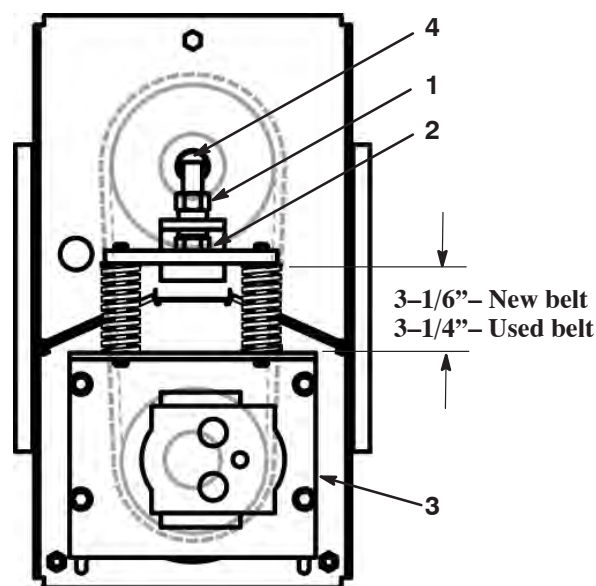
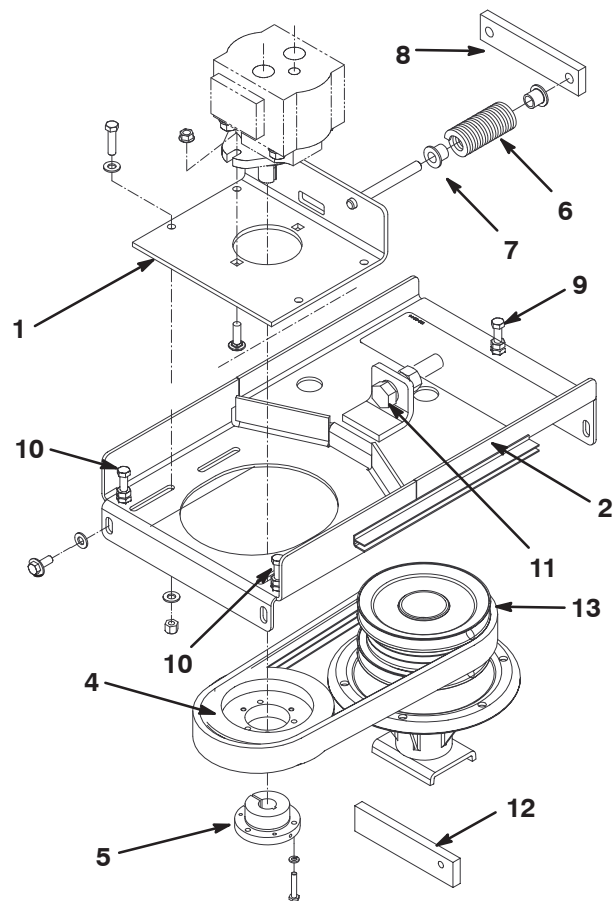

Figure 69
Figure 71
3. Loosen jam nut and relieve tension on springs with tensioner bolt (Fig. 69).
4. Loosen (4) capscrews securing slide plate to motor mount (Fig. 69).
5. Tighten tensioner bolt until springs are compressed to dimension shown in figure 69.
6. Tighten jam nut securing adjustment (Fig. 69).
7. Tighten (4) capscrews securing slide plate to motor mount (Fig. 69).
2. Loosen jam nut and relieve tension on springs with tensioner bolt (Fig. 71).
4. Thread the nut onto the adjusting screw and thread the screw into the rear of the motor mount (Fig. 71).
5. Loosen the (4) capscrews securing the slide plate to the motor mount (Fig. 71).
6. Remove the (4) flangehead capscrews and washers securing the motor mount to the deck (Fig. 71).
8. Position motor mount onto deck while routing belt around drive pulley (Fig. 71). Be careful not to bend, twist, kink or damage flexible hydraulic lines.
9. Loosely secure motor mount to deck with the (4) flangehead capscrews and washers previously removed.
10. Check the drive pulley (Fig. 71) height as follows:
- Slide the height gauge (Fig. 71) under drive pulley (not under taper lock bushing).
- Equally tighten or loosen (3) adjusting screws (Fig. 71) until bottom of pulley rests flush on height gauge (approximately 1-1/2").
- Tighten the (4) flangehead capscrews and washers securing motor mount to deck.
11. Tighten tensioner bolt until springs are compressed to dimension shown in figure 69.
12. Tighten jam nut securing adjustment (Fig. 69).
13. Tighten (4) capscrews securing slide plate to motor mount (Fig. 69).
4. Loosen (4) capscrews securing slide plate to motor mount (Fig. 71).
5. Remove (4) capscrews securing motor mount to deck (Fig. 71).